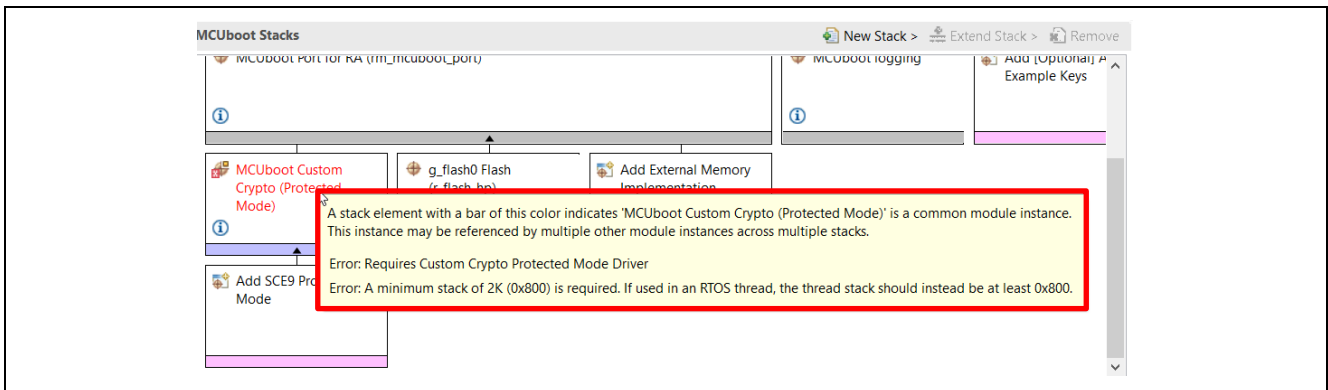

Figure 67. Dependencies of Mbed TLS (Crypto Only) Stack
- Under the BSP tab, set up the stack and heap size to resolve the error when hover the cursor over **MCUboot Custom Crypto (Protected Mode)** stack as shown in **Figure 67**: